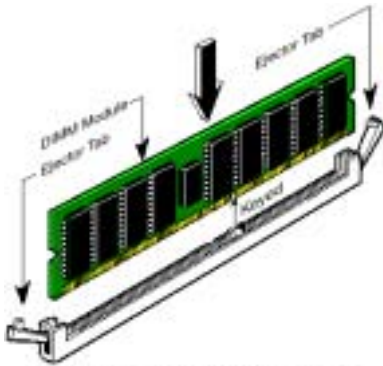

Figure 3-6. DDR DIMM module installation
**Step 5.** Insert the DDR DIMM module into the expansion socket as shown in the illustration. Note how the module is keyed to the socket. You can refer to Figure 3-6 for the details. ***This insures the DDR DIMM module will be plugged into the socket in one way only.*** Firmly press the DDR DIMM module into DDR DIMM socket, making certain the module is completely seated in the DDR DIMM socket.